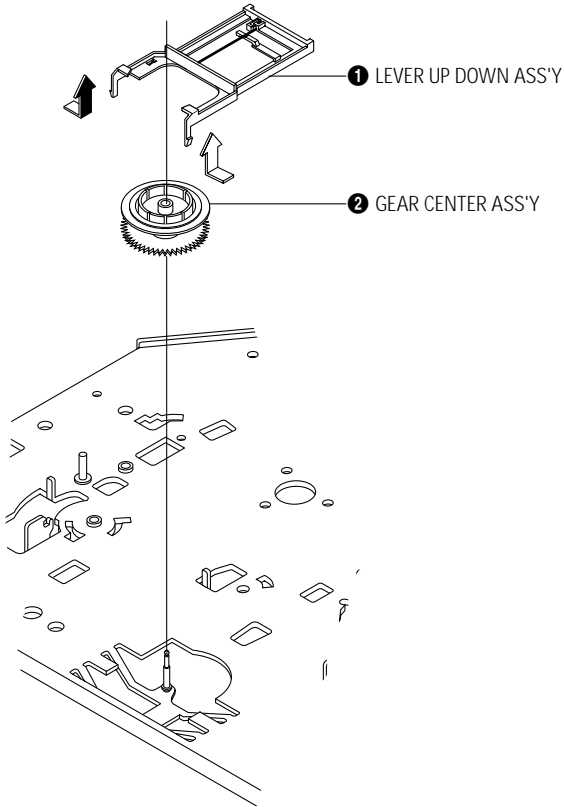

Fig. 4-24 Lever Up Down Ass'y, Gear Center Ass'y Removal
- 1) Remove the 2 hooks in the direction of arrow as shown Fig. 4-24 and lift the Lever Up Down Ass'y ①.
- 2) Lift the Gear Center Ass'y ②.